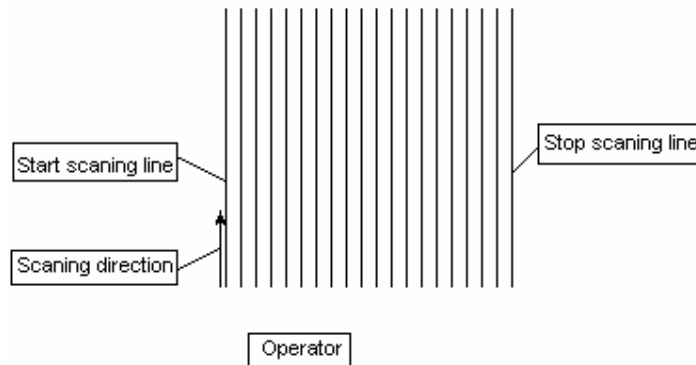

Fig. 64
1. Mark a rectangular area on the surface under test and rule it lengthwise line by line with a 1 cm step. The start scanning line is the extreme left one and the stop scanning line is the extreme right one. The scanning must be performed from the operator along each marked line (Fig. 64).